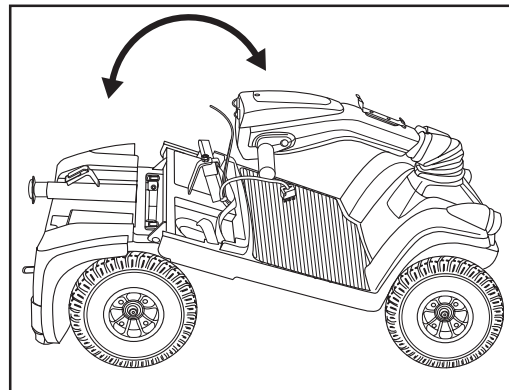

Figure 19. Frame Positioning
2. Push back on the seat post to pivot the PMV's rear section rearwards until the rear section is standing vertically on its bumper. See figure 19.
3. Holding the seat post, slowly pivot the rear section forward until the curved locking brackets are fully connected onto the top rear pegs. See figure 19.